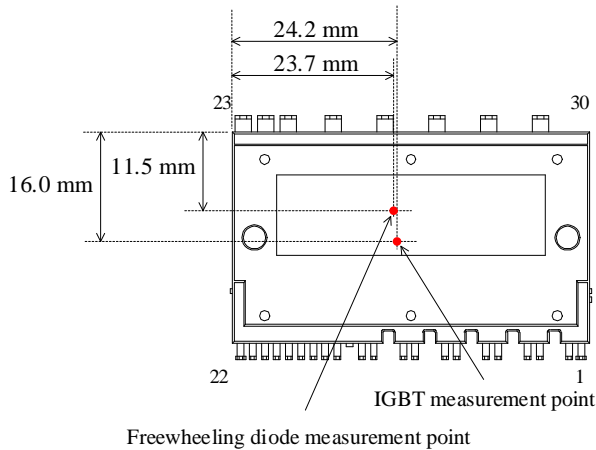
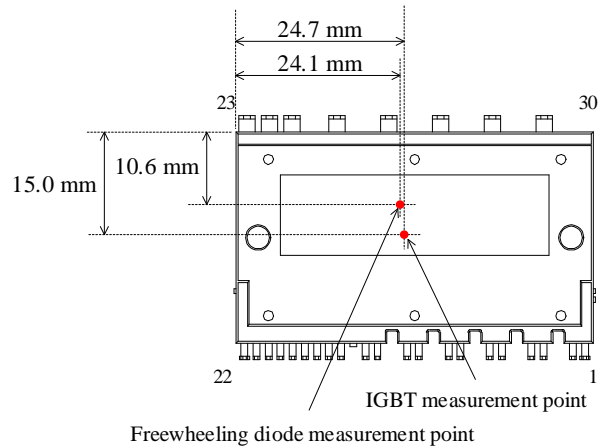

Figure 4-5. Case Temperature Measurement Point: SAM265M30AA1
Figure 4-6. Case Temperature Measurement Point: SAM265M50AA1
(4) Refers to a case temperature at the measurement point described in Figure 4-5 or Figure 4-6.